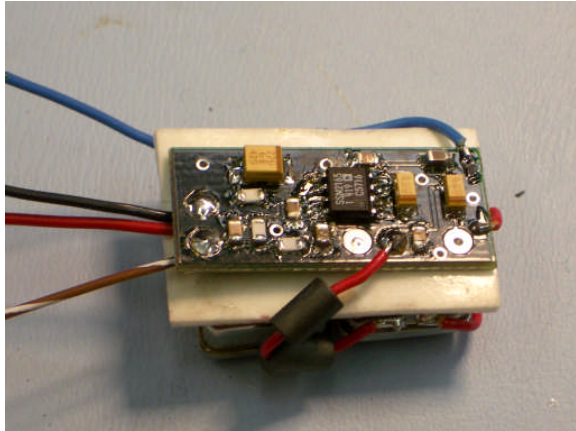

Figure 3.
8. Figure 3 shows the MAX PUNCH module. The four leads are as follows: